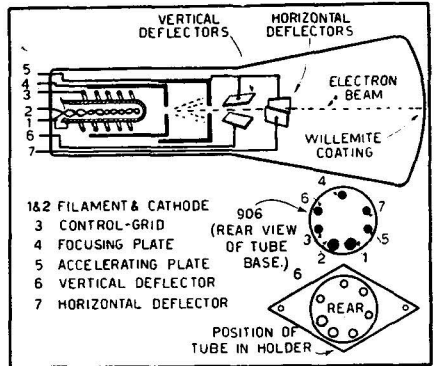

Fig. 54.
The seven elements are as follows (refer to Fig. 54): (1) filament; (2) cathode; (3) control-grid; (4) focusing plate; (5) accelerator plate; (6) vertical deflector; (7) horizontal deflector. A back view of the tube base shows where each element terminates. Numbers 1 and 2 connect to the filament which requires  $2\frac{1}{2}$  V. at 1.75 A. The cathode is internally connected to the filament prong No. 1.